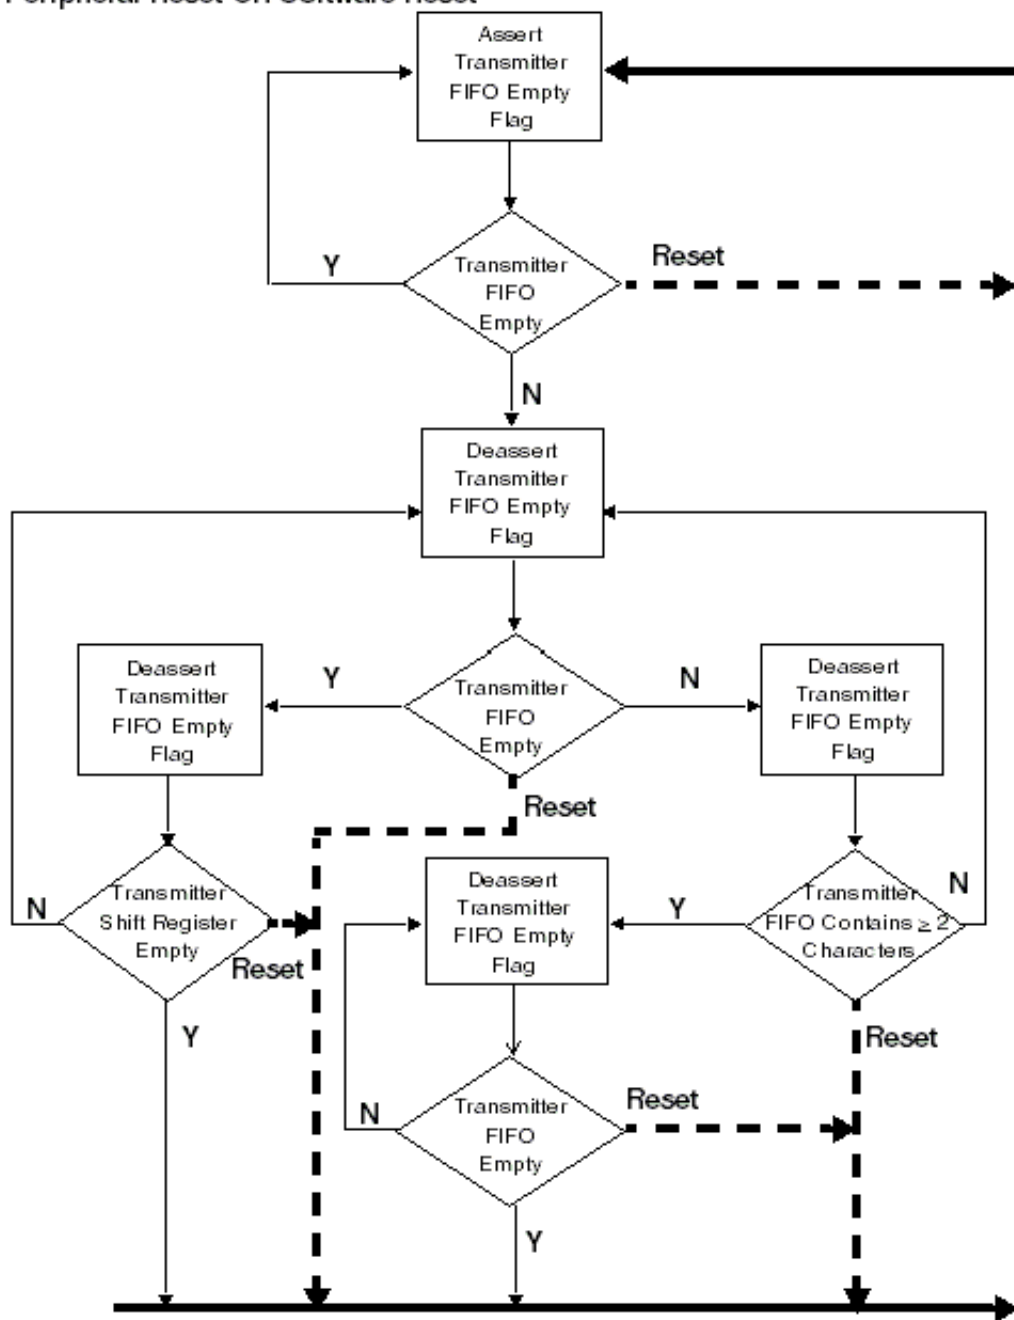

Figure 75-99. Transmitter FIFO Empty Interrupt Suppression Flow Chart
- The last character in the TxFIFO is transferred to the shift register, when TxFIFO contains two or more characters. See Figure 75-99.